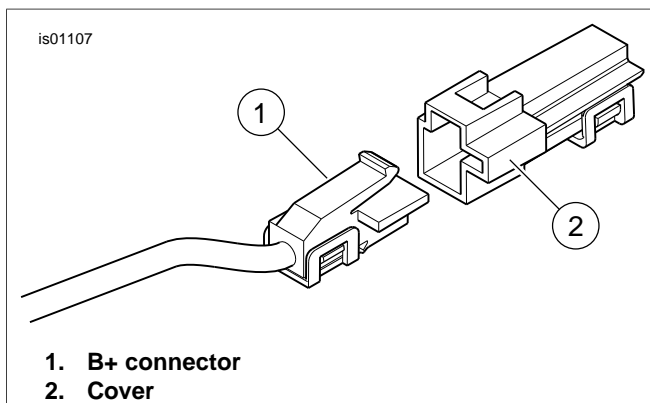

Figure 20. B+ Connector
1. See Figure 20. Locate the B+ (battery positive) connector (1) (a red wire with an unused gray connector) on the main electrical harness,